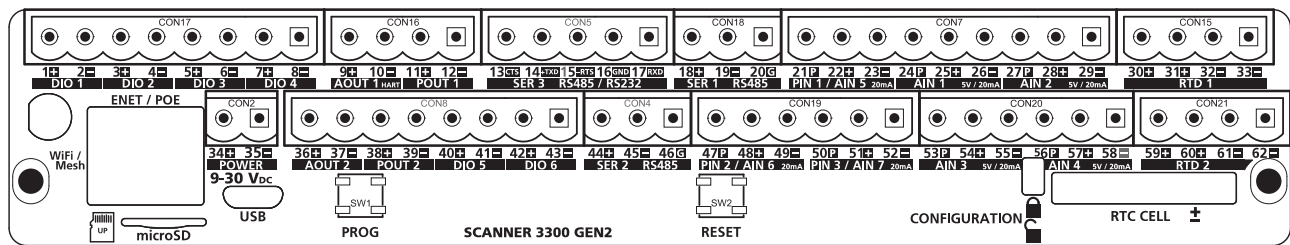

Figure 3.1 - Terminal board illustration with numbered terminals
1. The terminal board is at the rear of the enclosure. All wiring connections can be made to this board. Wire in accordance with the wiring diagrams shown on page 51 through page 59. See Figure 3.1 for help in locating the terminals by number.